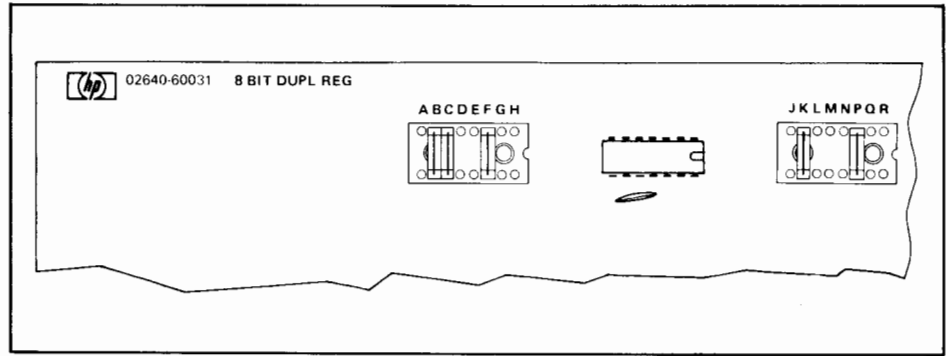

Figure 3-13. Terminal Duplex Register PCA Jumper Configuration for Use with 9866A/B or 9867A Printers
1. If the TDR PCA is to be used with a 9866A/B or 9867A printer the jumper configuration is standardized as shown in figure 3-13.